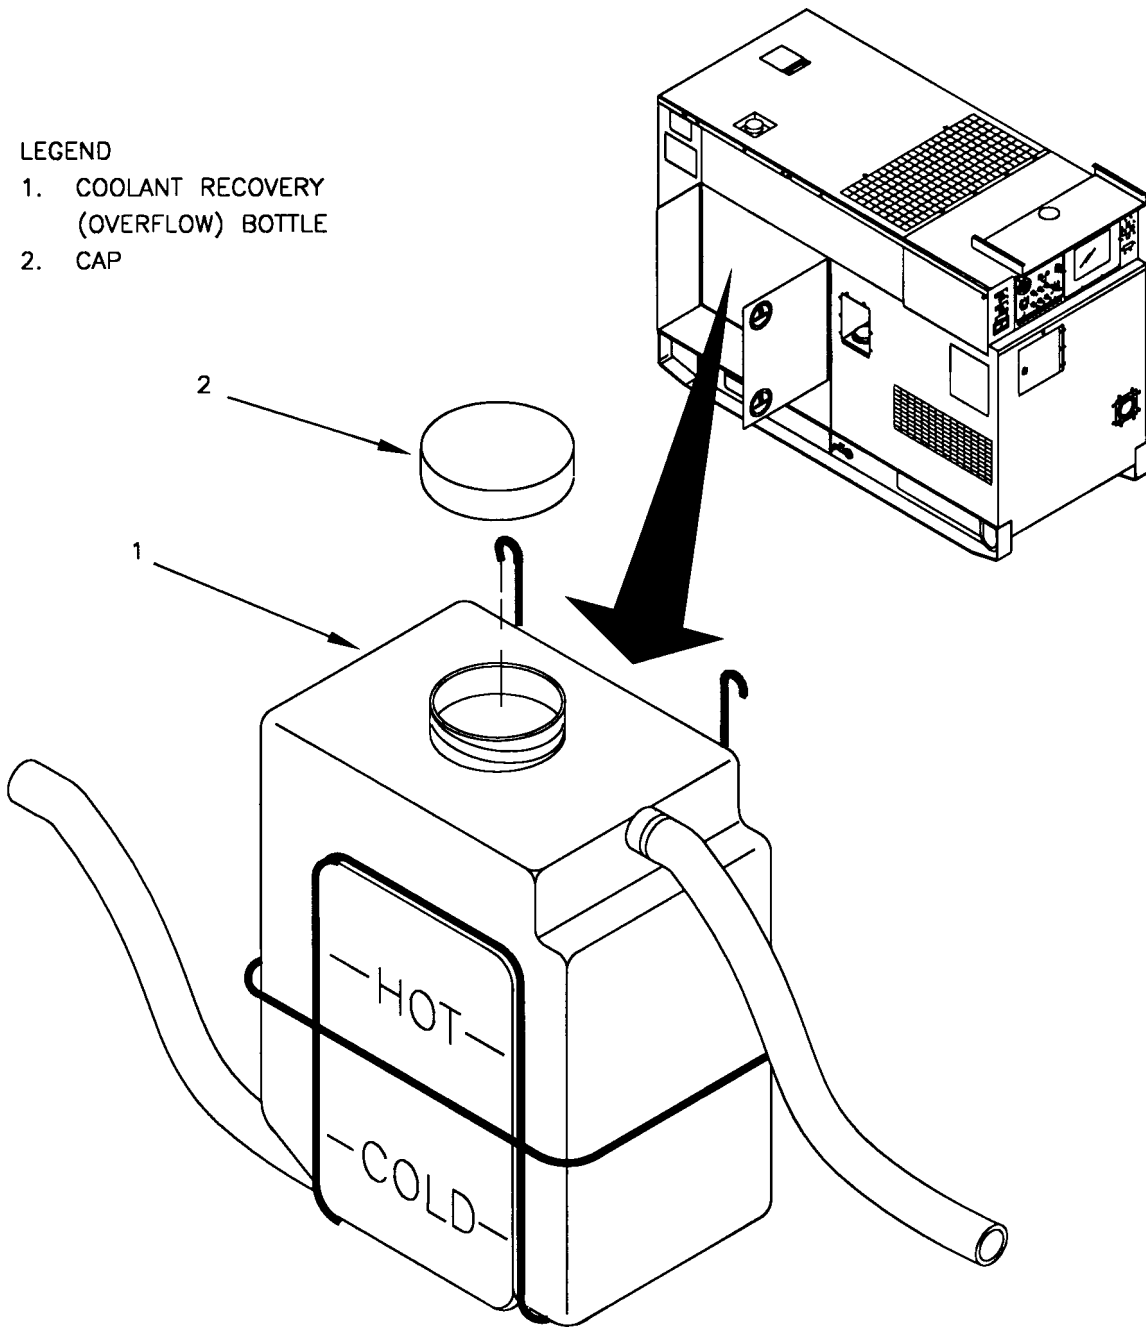

FIGURE 3-3. COOLANT RECOVERY (OVERFLOW) BOTTLE
- (3) Check radiator for dirt, leaves, insects and other blockage inhibiting air flow.
- (4) Check radiator and hoses for leaks, loose connections, loose mountings, corrosion, chafing, and missing parts.
- (5) Check coolant level on coolant recovery (overflow) bottle (1, Figure 3-3).
- (6) Close engine access doors.
- (3) Remove cap (2, Figure 3-3) from coolant recovery (overflow) bottle (1).
- (4) Fill coolant recovery (overflow) bottle (1) to HOT line if engine is hot, COLD if engine is cooled down, with proper coolant/antifreeze in accordance with Table 3-2.
- (5) Install cap (2) on coolant recover (overflow) bottle (1).
- (6) Close engine compartment access doors.